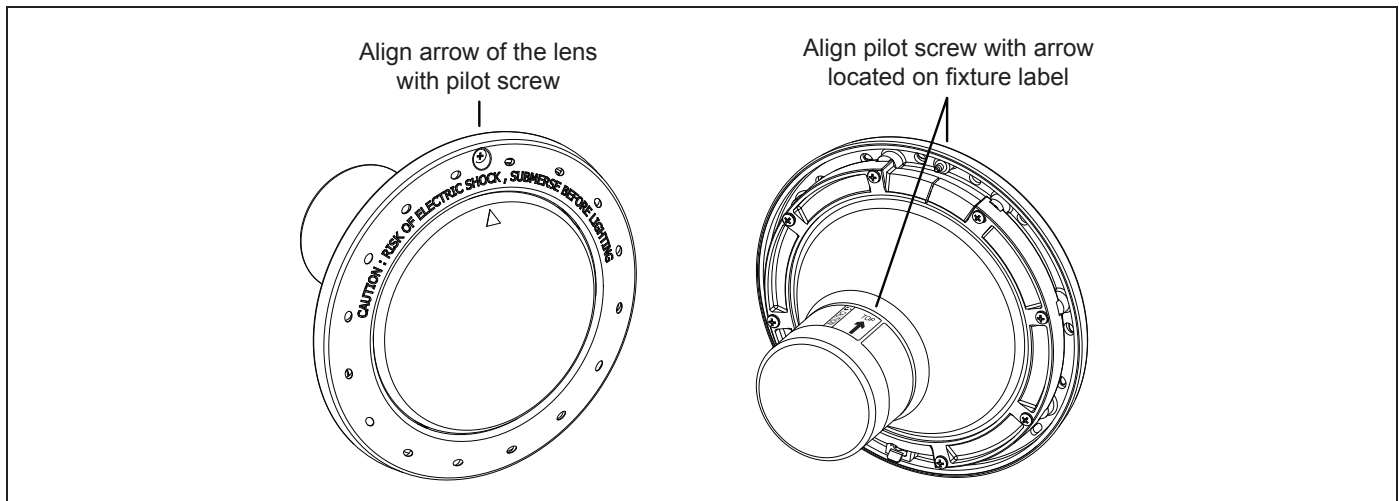

Figure 2. Alignment of the Lens, Face Ring, Housing and Clamps for Pool White Lights
- c. Position the lens and gasket on the fixture. Place the face ring and the top clamp over the lens and align the pilot screw with the small arrow mark on the face of the lens. Note that the small arrow mark on the face of the lens and the pilot screw of the face ring must be aligned with the arrow located on fixture label that reads, “Arrow on this label must line up with the pilot screw on the Face Ring”. See Figure 2.
- e. Spread the bottom clamp over the electrical cord and slide it onto the back of fixture to the top clamp. See Figure 2.
- f. Tighten the eight (8) Phillips head screws for pool light or the six (6) Phillips head screws for spa light in alternating cross-pattern. Torque screws to approximately 20 in-lbs. Do not over-tighten.
- a. Coil four (4) feet of cord around the fixture and place the light assembly into the niche.